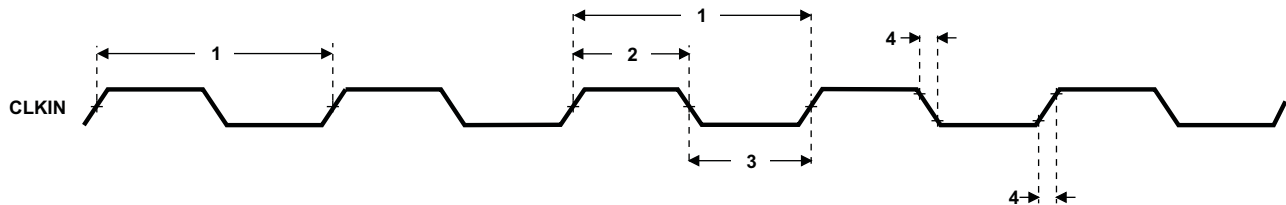

Figure 6-9. CLKIN Timing
Table 6-4. Timing Requirements for CLKIN(1) (2) (see Figure 6-9)